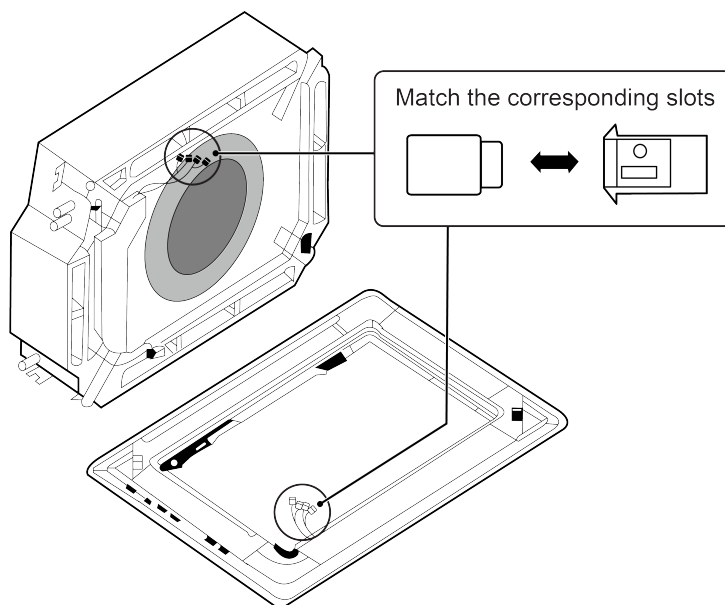

Fig.4.4.3
- (3) Connect the decoration panel terminals (Female) to body terminals (male) as shown in Fig.4.4.3.